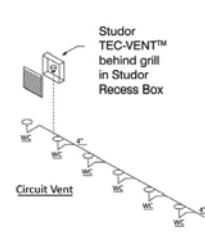

Figure 3
- Can be used as a branch vent (see Fig.2), as a circuit vent (see Fig.3), or any individual vent, common vent, circuit vent, loop vent or island fixture vent.